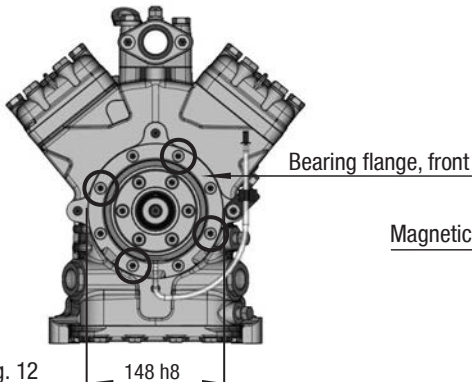

Fig. 12
- To absorb the magnetic field of the electromagnetic clutch, the front bearing flange has a snug fit  $\varnothing 148 \text{ h8}$  (see Fig. 12).
- To connect the magnetic field, loosen the 4 cheese head screws M8 on the bearing flange (see Fig. 12).